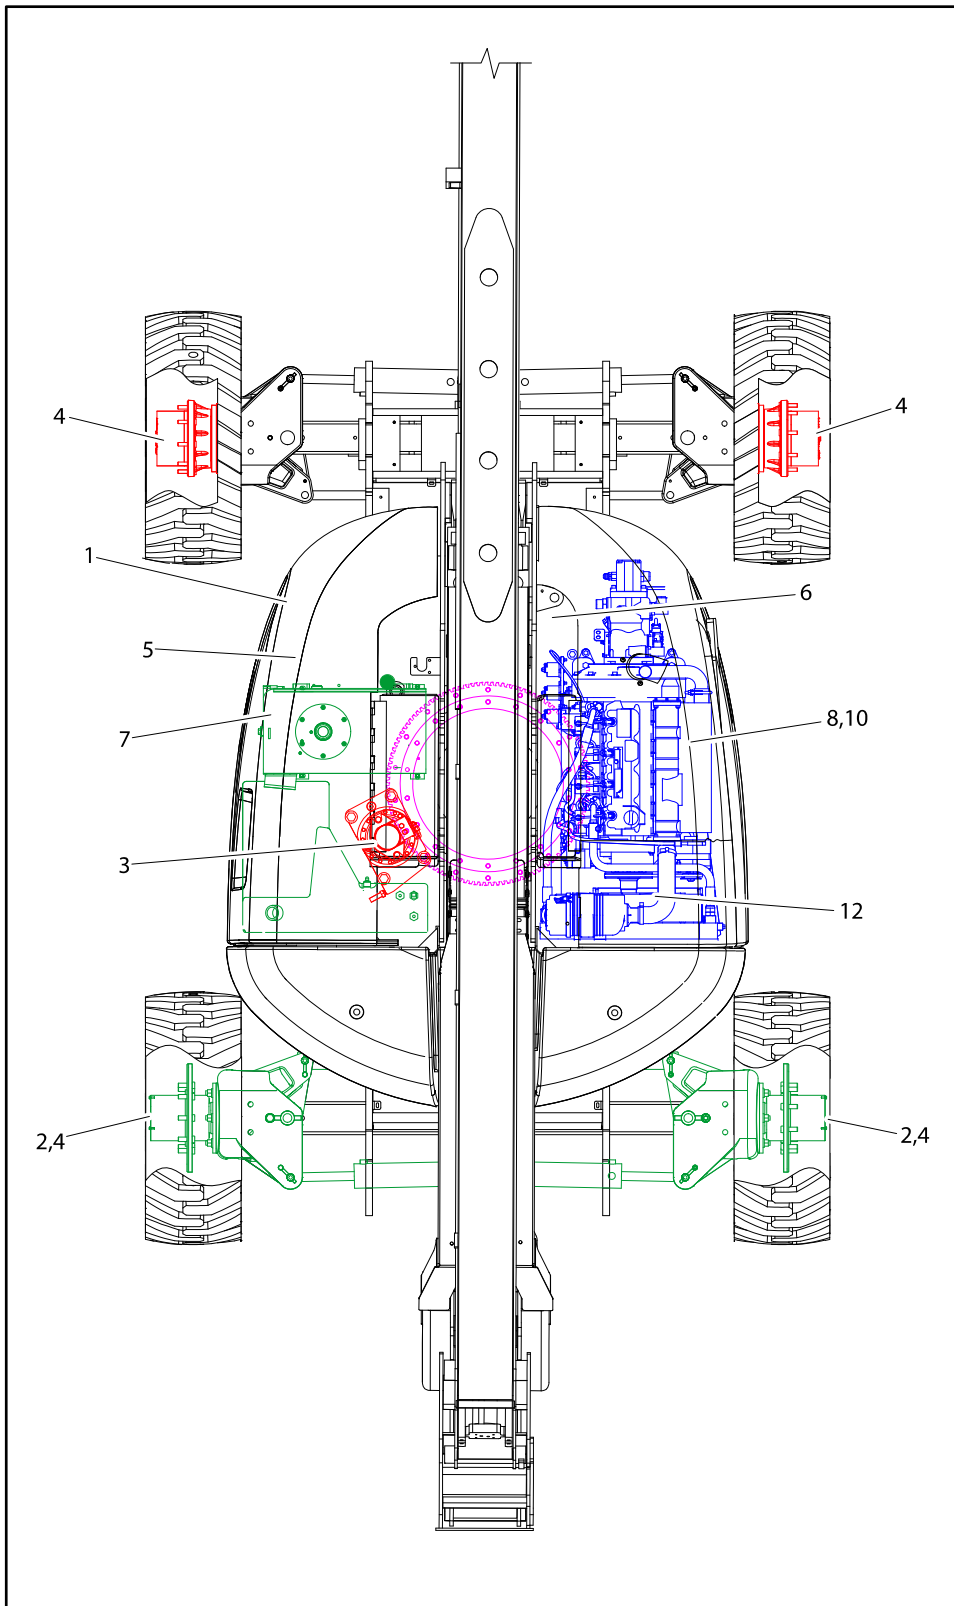
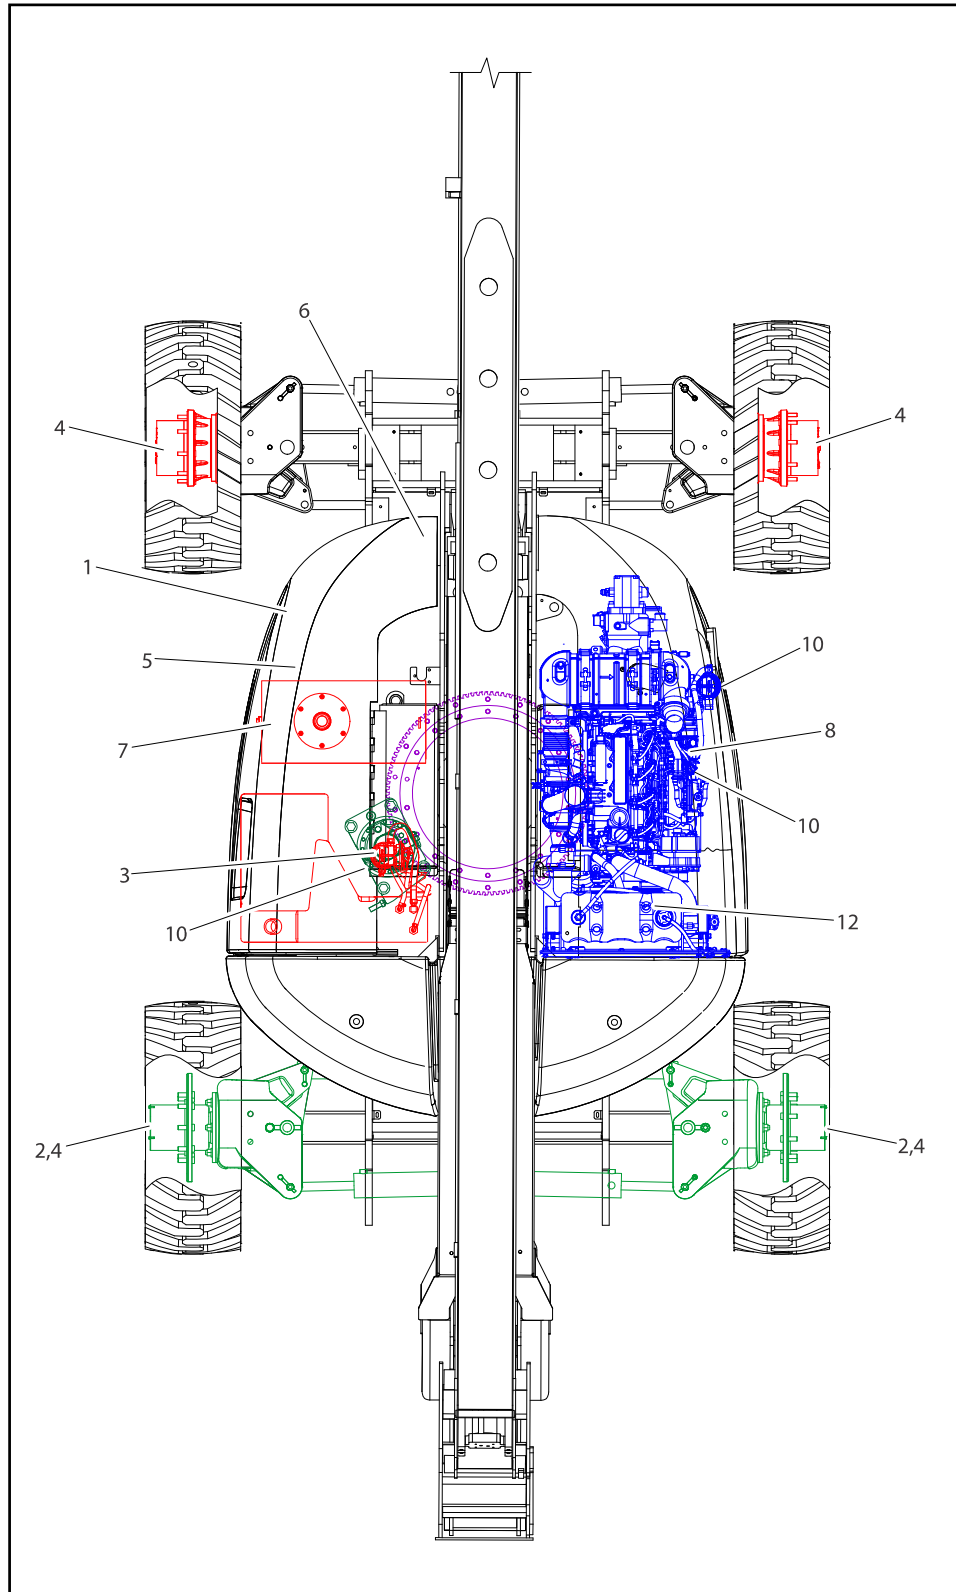
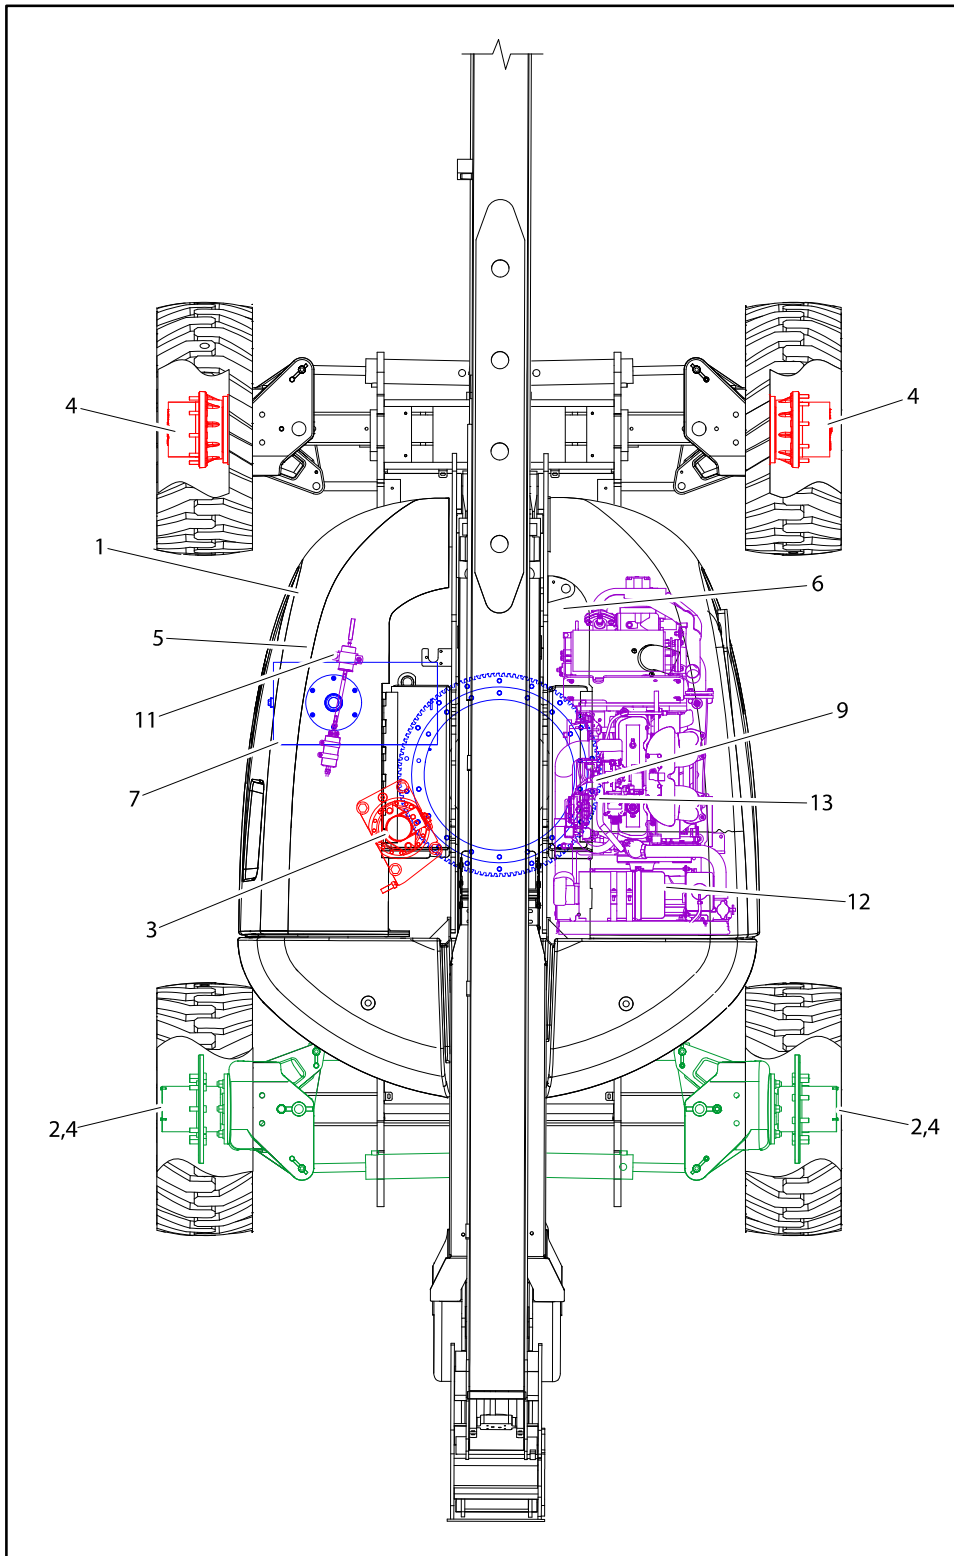

Figure 1-1. Operator Maintenance and Lubrication Diagram - Deutz D2011
Figure 1-2. Operator Maintenance and Lubrication Diagram - Deutz TD2.9
Figure 1-3. Operator Maintenance and Lubrication Diagram - GM 3.0L
**NOTE:** The following numbers correspond to those in Figure 1-1., Figure 1-2. and Figure 1-3.